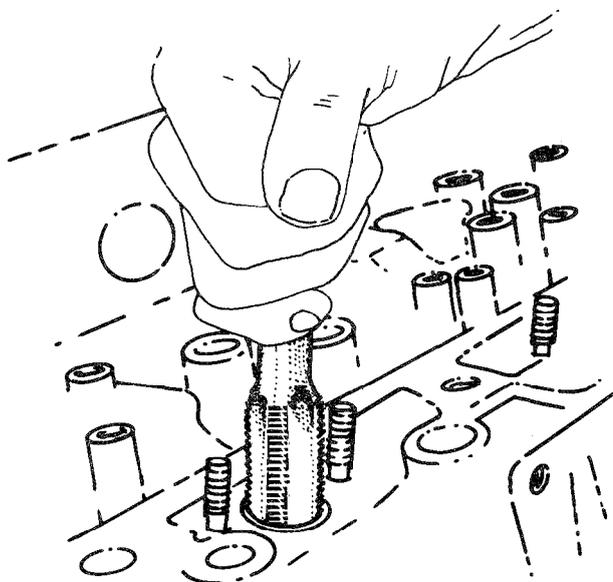

Fig. 10 — Cutting Threads into Nozzle Sleeve
- a. Use a $\frac{7}{8}$ in-9 NC tap to cut a thread in the sleeve (see fig. 10).